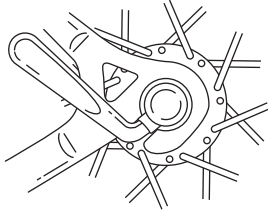

fig. 14 Wheel in Rear Dropouts
(4) Put the chain on top of the smallest freewheel sprocket. Then, insert the wheel into the frame dropouts and pull it all the way in to the dropouts (fig. 14).
(5) Tighten the adjusting nut until it is finger tight against the frame dropout; then rotate the lever toward the front of the bike until it is parallel to the frame's chainstay or seatstay and is curved toward the wheel (fig. 14).